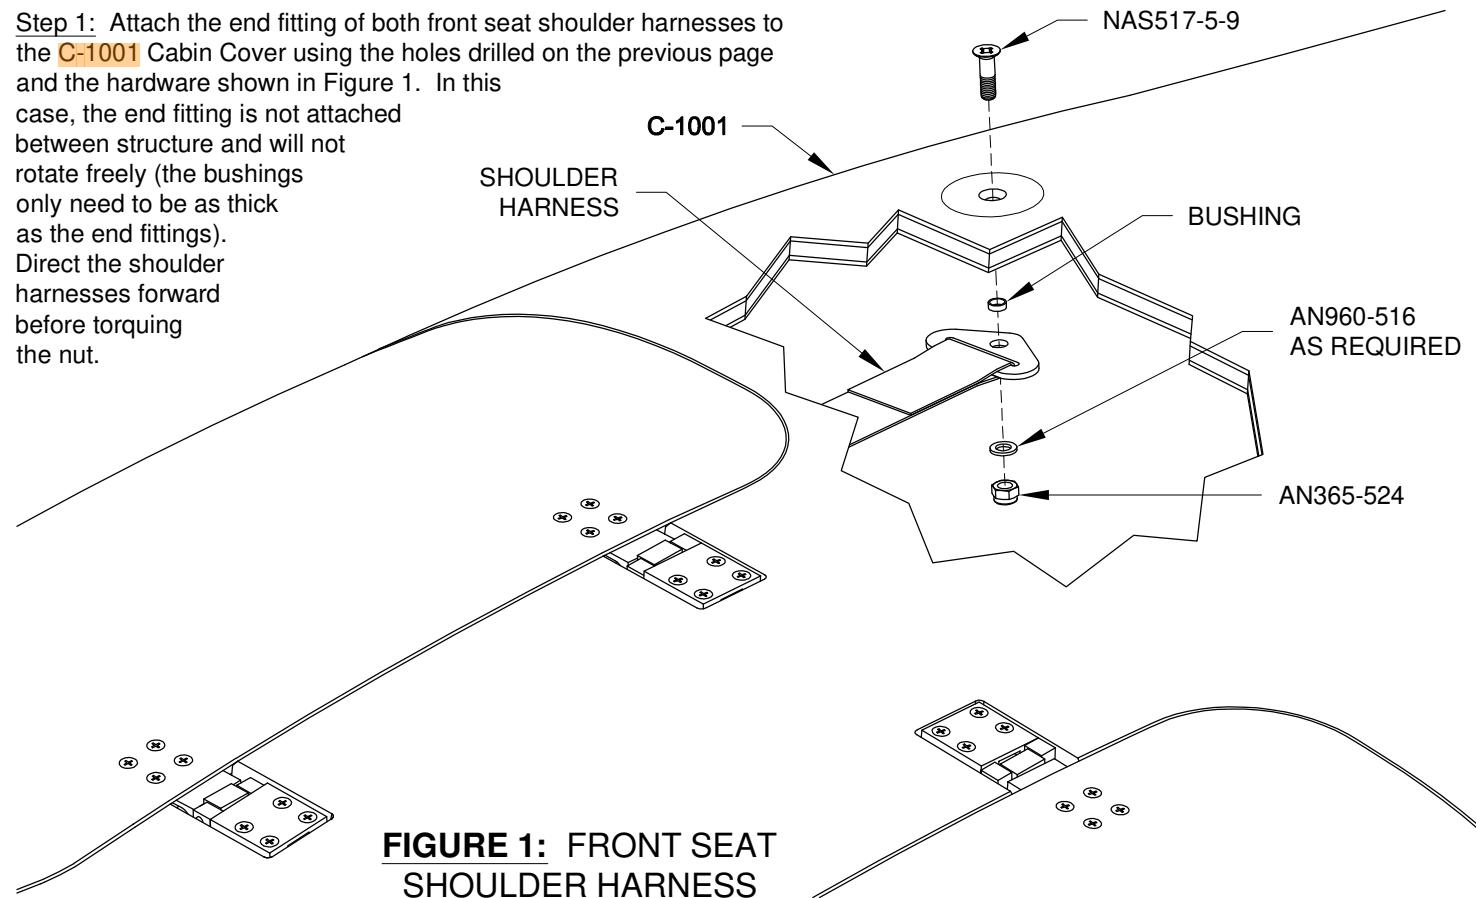

FIGURE 1: FRONT SEAT SHOULDER HARNESS
Step 1: Attach the end fitting of both front seat shoulder harnesses to the **C-1001** Cabin Cover using the holes drilled on the previous page and the hardware shown in Figure 1. In this case, the end fitting is not attached between structure and will not rotate freely (the bushings only need to be as thick as the end fittings). Direct the shoulder harnesses forward before torquing the nut.